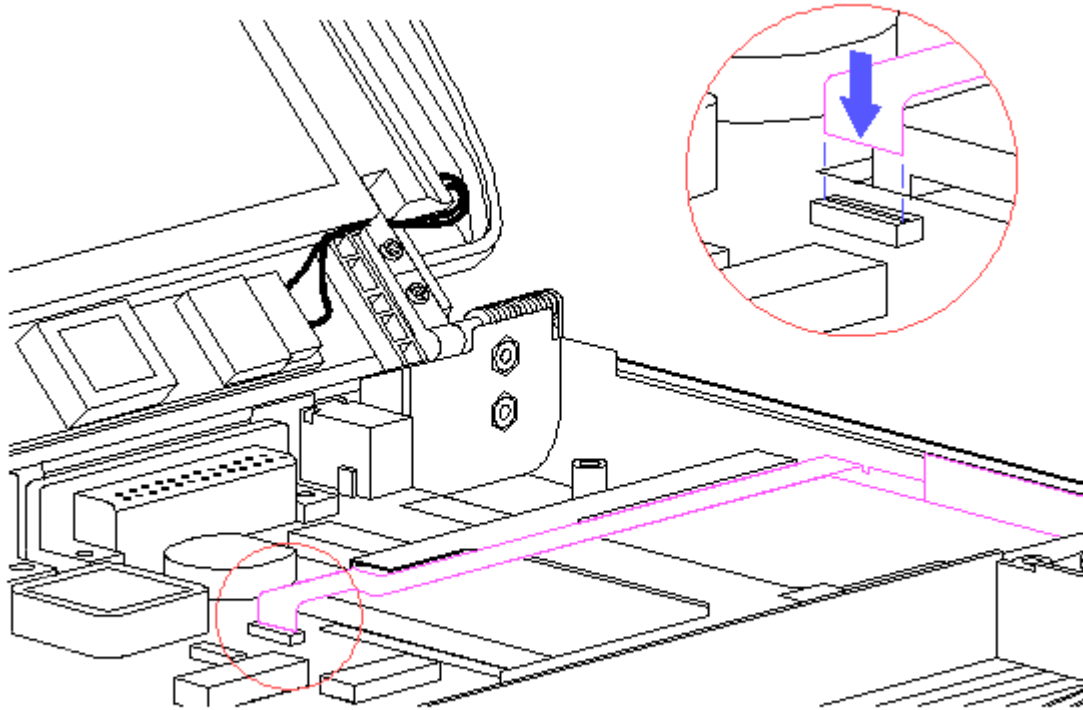

Figure 3-43. Routing and Connecting the Trackball Cable
5. Route the folded portion of the trackball cable behind and over the hard drive. Plug the cable into the system board LIF connector (Figure 3-43).